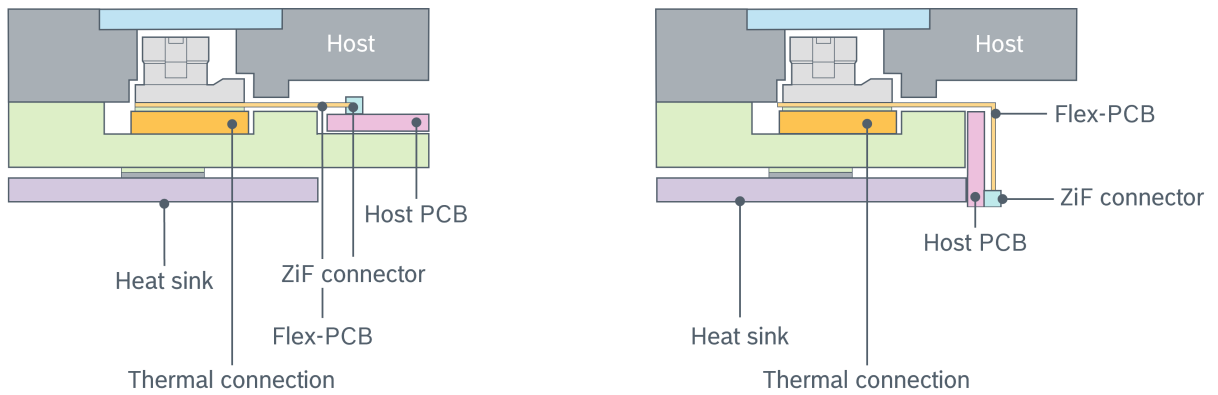

Figure 15: Placement of PCB for the sensor position
- Flexibility to place the PCB for the sensor position (side by side, stacked, etc. – see Figure 15).